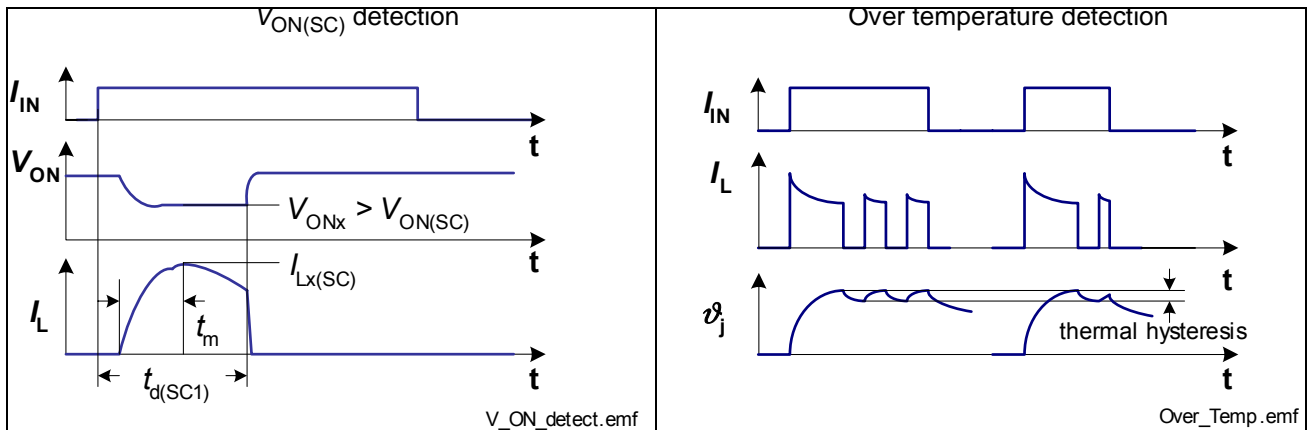

Figure 12 Overload Behavior
In the event that either the short circuit detection via $V_{ON(SC)}$ is not activated or that the on chip temperature sensor senses over-temperature before the blanking time $t_{d(SC1)}$ passed by, the device switches off resulting from over-temperature detection. After cooling down with thermal hysteresis, the devices switches on again. Please refer to **Figure 12** for details.
2) Short circuit current limit for max. duration of $t_{d(\text{SC}1)}$, prior to shutdown, see also Figure 12.